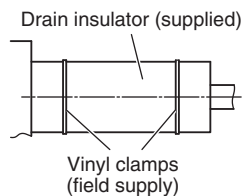

Fig. 1-98
- After connecting the drain pipe securely, wrap the supplied packing and drain pipe insulator around the pipe, then secure it with the vinyl clamps. (Fig. 1-98)